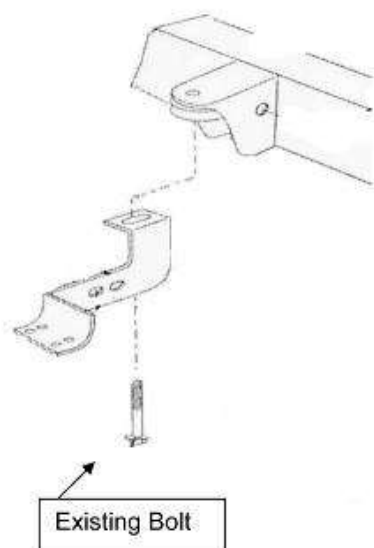

Figure 1. Passenger Side Rear Bracket Shown
1. Remove existing body mount bolts as shown. DO NOT DISCARD! (Fig. 1)
2. Install front and rear brackets as shown (Fig. 1 & 2). Hand tightens.
5. Install front and rear support braces as shown. Hand tightens. Note: For slide rear strap Between main bracket and frame (Fig. 1). For front brace, use correct brace for Light Duty or Heavy Duty (Fig. 2 & 3)